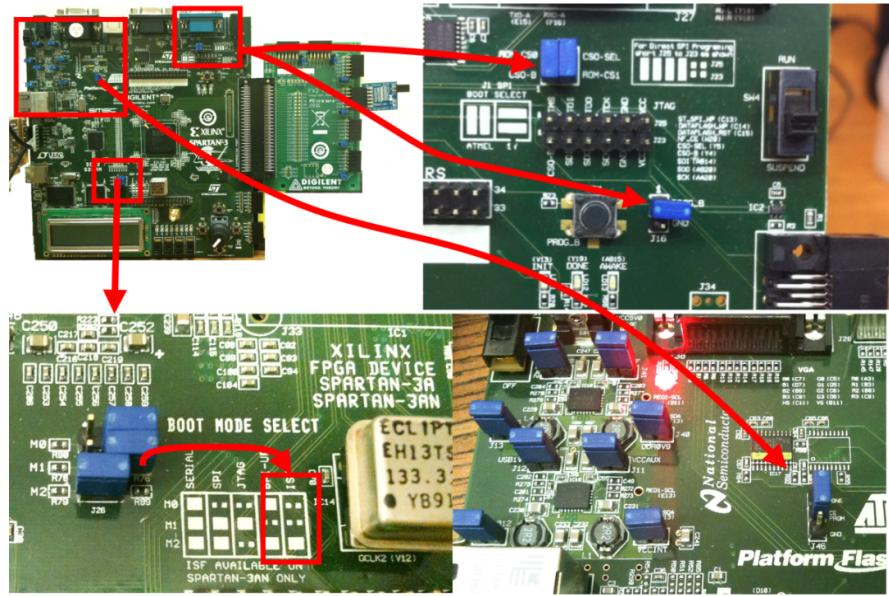

Figure 27: Jumper locations.
3. Now check all the jumpers on the FPGA demo board. Details can be found in the FPGA user guide. Briefly, one should check the status of the following jumpers, shown in figure 27: boot mode select jumper (bottom left of the figure), reset select J18 (upper right), SPI programming jumper (upper right), and power supply and memory jumper (bottom right).